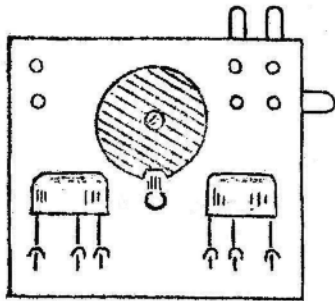

FIG. 1 (front)
- (1) Insert eyelets. Insert 6 fleaclips. (Items marked cbe and EBC in fig.3) Push them in holes fig.1 side with sharp edge downwards.
- (2) Mount "B Pack" Transformer with small nut and screw on side "fig.1" and thread wires through hole. Avoid pinching or breaking the 6 thin wires.
- (3) Locate the two thicker reddish single wires and carefully thread each through the holes in the fleaclips "C" and "c". Do not pull tight.
- (4) Locate the double reddish (thicker) wire and thread through eyelet marked "A-B-".
- (5) Remove ½" insulation from blue wire and insert in eyelet marked "A-B-".
- (6) Solder eyelet marked "A-B-". It is not necessary to scrape the thin transformer wires before soldering.
- (7) Locate thin double wire and thread through eyelet "F", and solder.
- (8) Locate thin wire with knot and thread through eyelet "P". Solder.
- (9) Locate other thin wire. Thread through eyelet "G".
- (10) Insert 1 mf 50V. capacitor C1 in eyelets "B+" and "G" with "+" at "B+".
- (11) Insert other 1 mf capacitor C2 in eyelet "G" and fleaclip "E", with "+" at "G". Continue wire from "E" to fleaclip "e".
- (12) Solder eyelet "G".